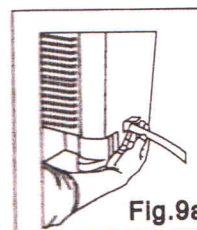

Fig.9a
- Insert the female threaded end of the hose through the opening. (Fig.9a)